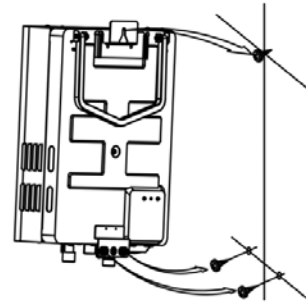

Fig.10
- (2) Mount the heater vertically on the self-tapping screw in upper hole then screw the remaining two self-tapping screws into the lower holes. Tighten three holes so that the heater is fixed on the wall. (Fig. 10)